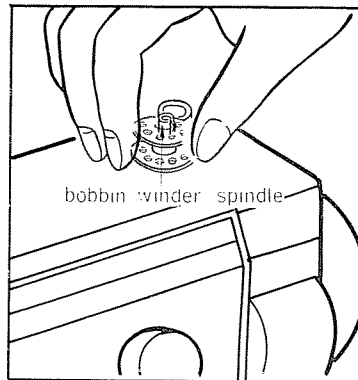

Fig. 1
2. Place a bobbin on the bobbin winder spindle, turn the bobbin until the notch in the bobbin meets the spring on the spindle, and push the bobbin down. Then push the bobbin winder spindle so that the bobbin winder stopper fits into the bobbin. (Fig. 1)